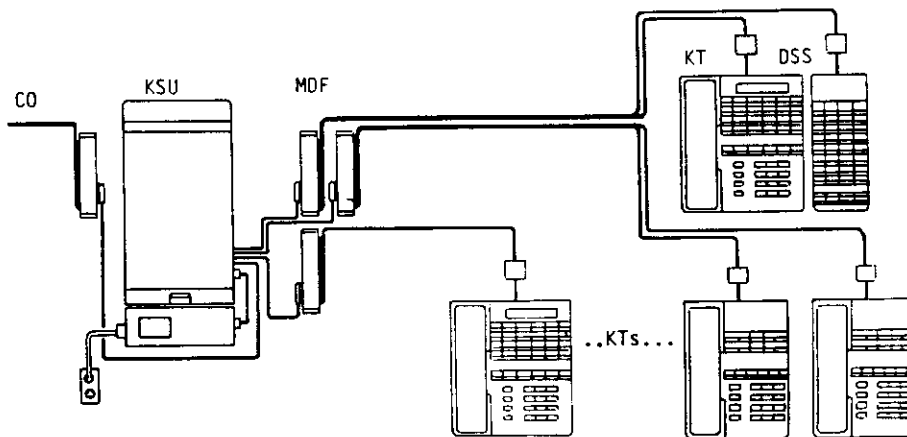

FIGURE 4-63
- e. Extensions are connected from the MDF to the KSU using 25-pair cable with a male 50-pin amphenol (RJ21) type connector the KSU end. Eight extensions per 25-pair cable form an "extension set". Each "extension set" is connected to the corresponding female 50-pin amphenol connector on the AMPA MDF panel at each KSU. Figure 4-63 shows where the "extension sets" connect to the KSU.